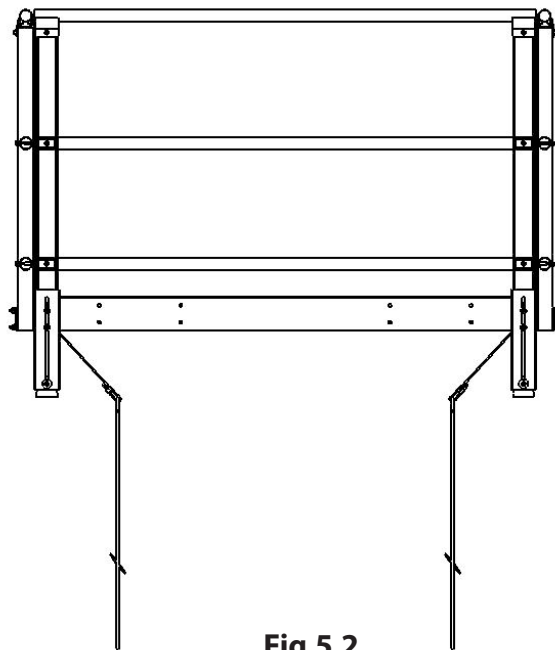
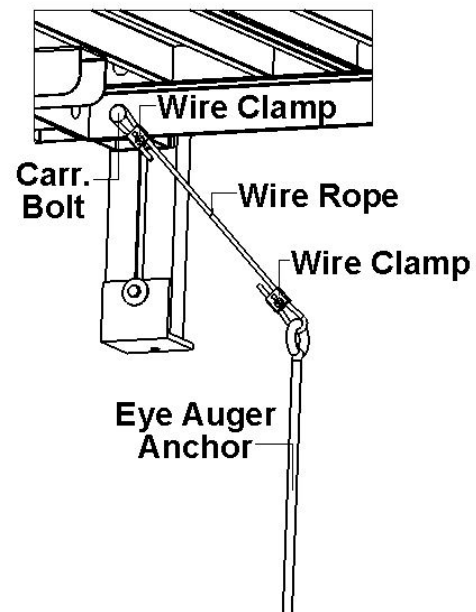

Fig.5.2
Fig.5.3
5.1 Hurricane Tie down Kit (Platforms): The field conditions will determine the location of the tie downs. Generally the anchors should be installed opposite from one another. The PVI Modular Ramp System will have to be fully assembled and installed to determine the exact anchor locations; it may be necessary to temporarily reposition components to install the anchors. For platforms an anchor needs to be installed at each corner, by loosening the lower carriage bolt at the corner post location. Run the wire rope through the wire clamp to form a loop, place the loop around the head of the carriage bolt securing the wire rope between the carriage bolt and platform, cinch wire rope and retighten hardware. Install the auger into the ground as vertical as possible, using a ½" steel rod or similar item to screw the anchor into the ground. Turn anchor into ground until only the eye is exposed (**Fig.5.2**). Run the wire rope through the wire clamp, and the eye of the anchor forming a loop through the anchor run wire rope back through the wire clamp (**Fig.5.3**). Pull wire rope tight and tighten the screws in the wire clamp. Cut off excess wire. Tape off the ends of the wire rope to ensure the wire will not fray, using electrical tape.